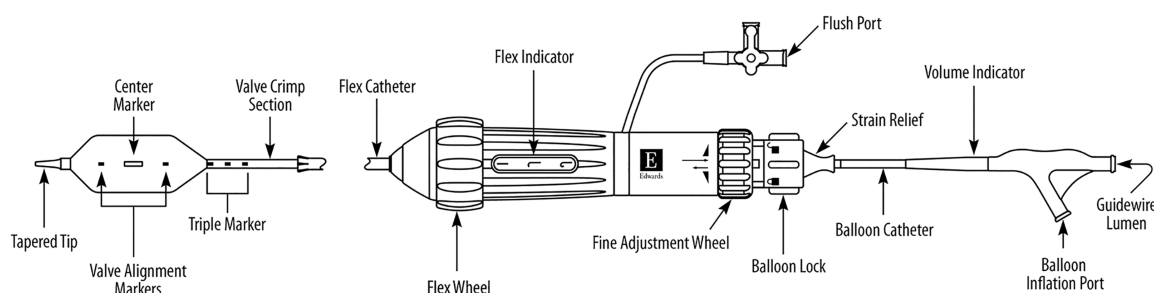

Figure 3: Edwards Commander Delivery System
• Edwards Commander Delivery System (Figure 3)